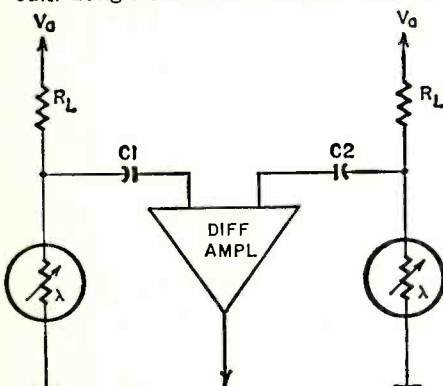

Fig. 2—Dc voltage in photocell circuit from sunlight is blocked by C1 and C2.
Voltage generated in the photoresistor circuits due to continuous light (sunlight, car headlights, etc.) is eliminated by capacitors C1 and C2 between the differential amplifier and photoresistor voltage divider (Fig. 2). Interfering illumination of 120 Hz (100 Hz in Europe) is filtered after the signal voltage is amplified. To operate the photoresistors in a fixed region of their response curve, a small "bias" lamp (5) shines on them. This lowers sensitivity, but improves accuracy.